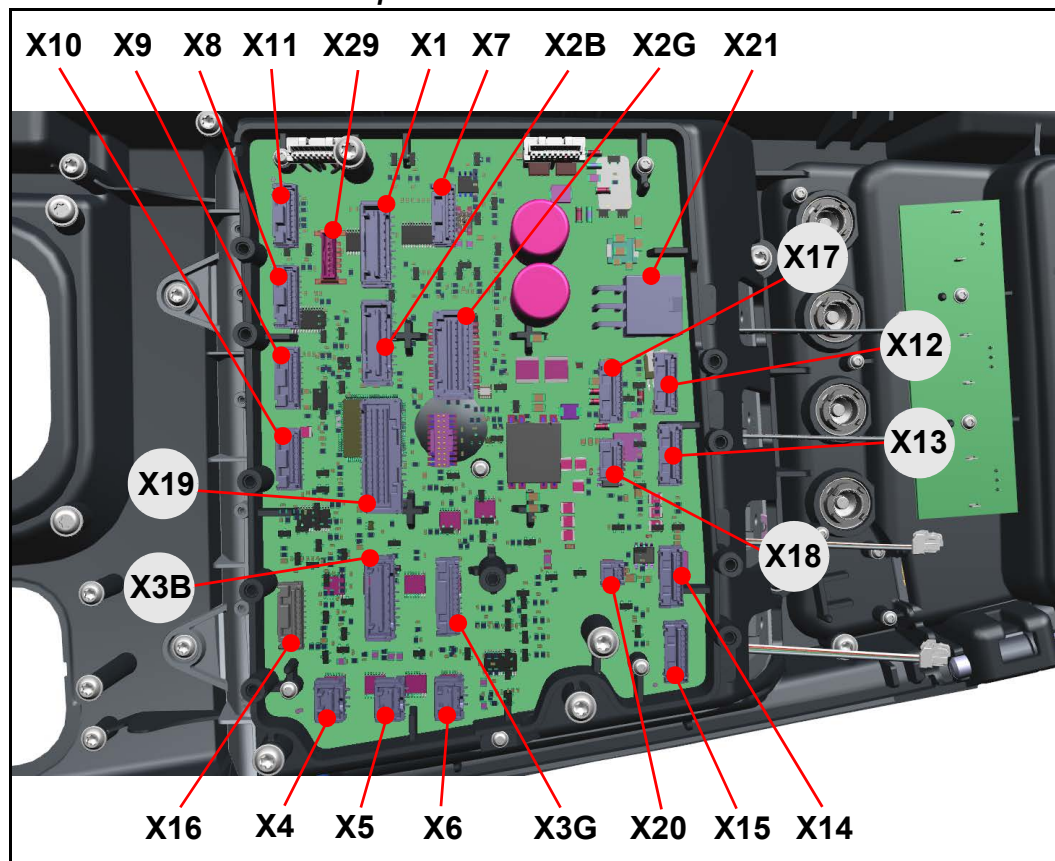

Figure 13
1. Unplug the set of wires for the CAN main board (Figure 13, X21) and undo the connection to the lower shell.
- Install the sets of wires after replacing components in accordance with Figure 13, page 22.